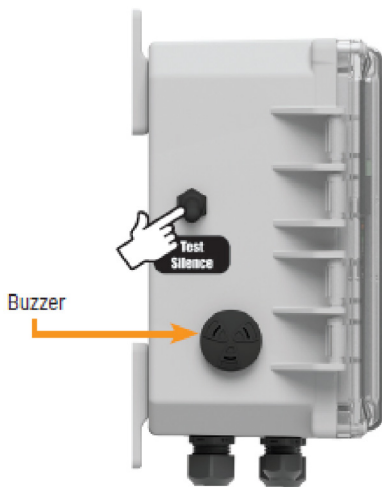

Figure 13
1. Flip upward and hold the test/silence switch (Fig. 13) on the exterior left side of the control panel enclosure.
2. Flip the test/silence switch upward (Fig. 13) on the exterior left side of the control panel enclosure, the alarm buzzer should silence while the alarm LED remains illuminated.